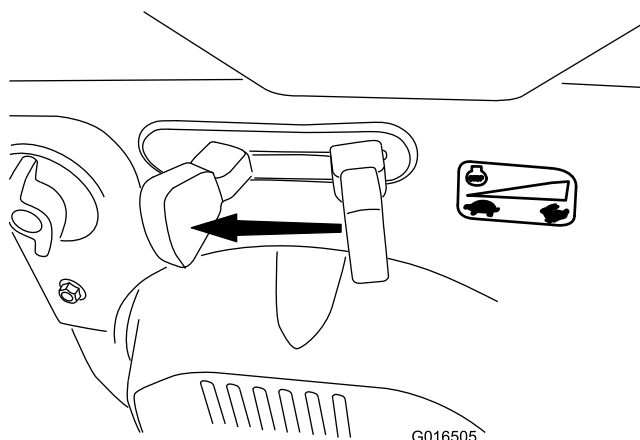

Figure 34
1. Move the throttle to the Slow position, and then to the Stop position (Figure 34) to kill the engine. The engine can also be stopped by pulling the ignition key outward to the middle position.